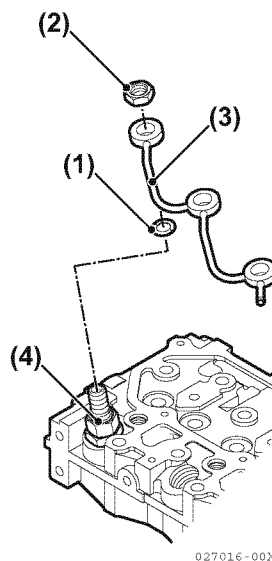

Figure 7-6
3. Remove all fuel return line nuts (**Figure 7-6, (2)**) from the injectors (**Figure 7-6, (4)**).
5. Carefully remove the fuel return line assembly (**Figure 7-6, (3)**).
6. Remove and discard the copper gasket (**Figure 7-6, (1)**) from each fuel injector.